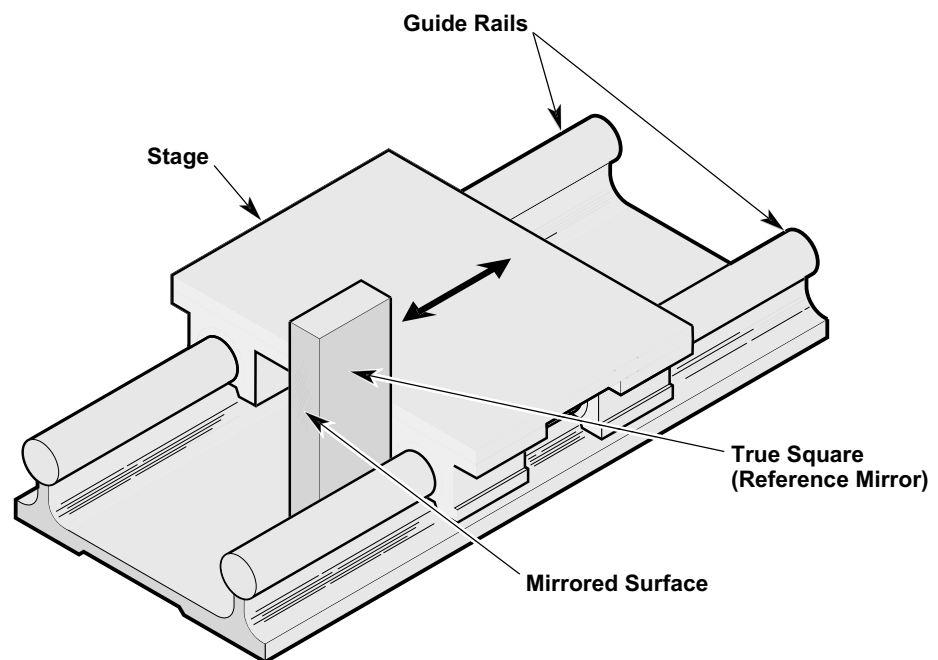

Figure 4-9. Using reference surfaces to align mirror
- Locating the mirror reference surfaces against fixed reference surfaces on the machine's positioning system (e.g., ways, rails, guides). (See Figure 4-9.)